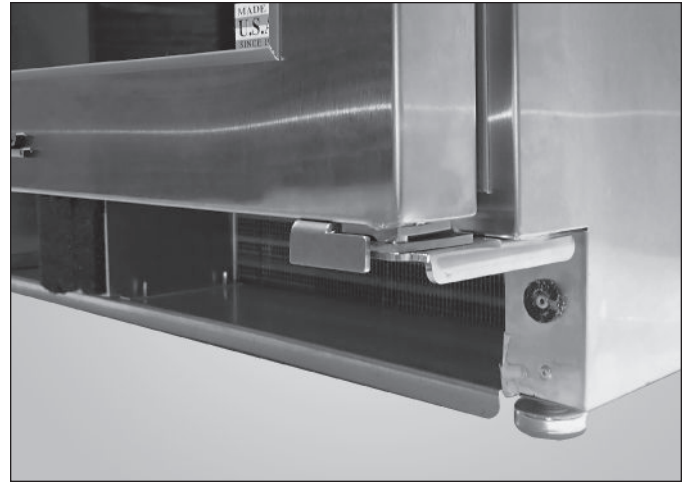

FIG. 5. Installed 90° hinge kit.
5. Position the door and install the 90° hinge. See fig. 5.